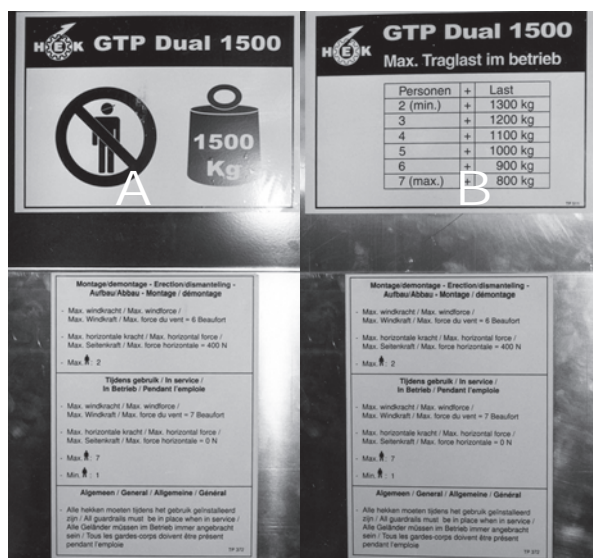

Fig.7-03 Identification plate transport platform / material hoist
- Put the identification plate (fig.7-03) in the correct position (A = material hoist / B = transport platform).